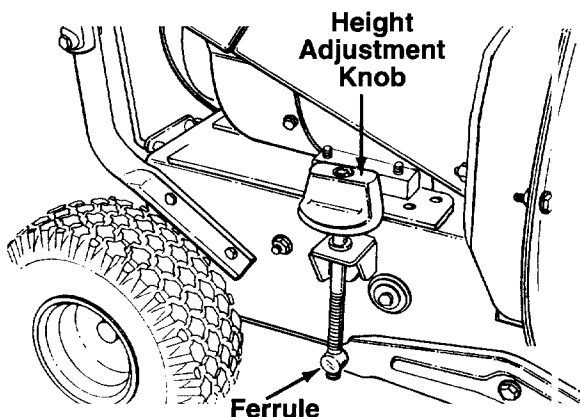

FIGURE 10.
A. The height adjustment knob is located on the right hand side of the chipper-vacuum. See figure 10 for its actual location. Adjusting the height here will also raise or lower the height of the nozzle. For further adjustment of the nozzle height to control the flow, see the next section.